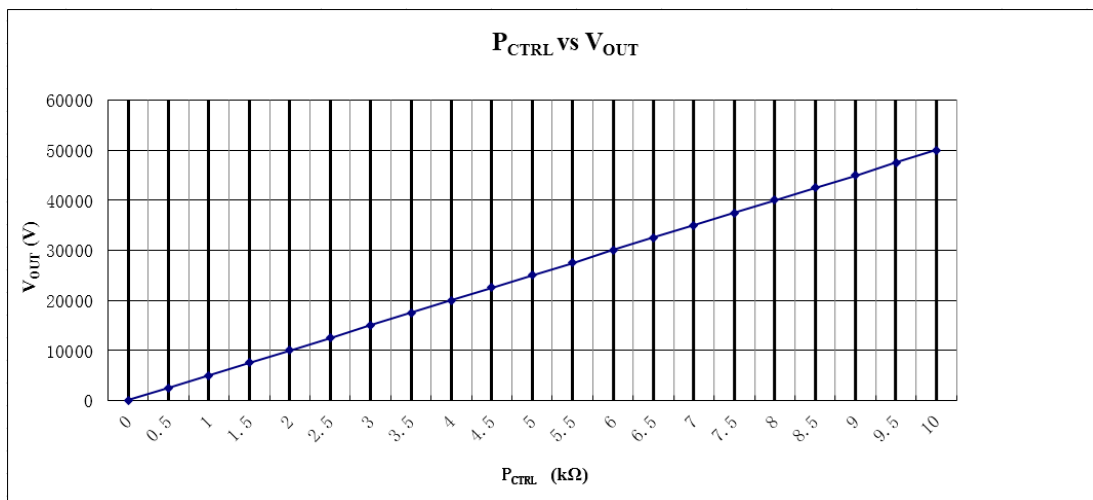

Figure 4. P\_CTRL vs. V\_OUT
5. HV adjustment: 10-turn potentiometer for adjusting output voltage. Rotate it clockwise to increase the output voltage, and the potentiometer resistance = the corresponding scale  $\times$  10 $\Omega$ . For example, as Figure 4 shows, when the scale is 10, and the frame above the scale shows 1 (1k $\Omega$ ), then the resistance =  $10 \times 10\Omega + 1k\Omega = 1.1k\Omega$ , and the like.